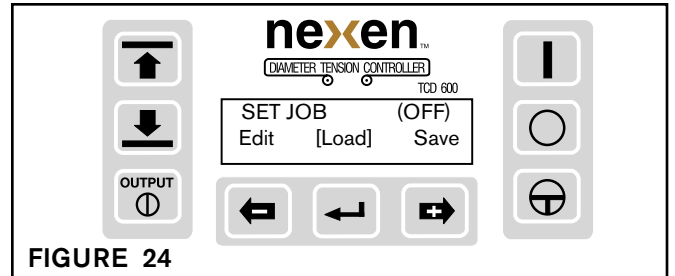

FIGURE 24
- The display returns to Set Job. Press EDIT again to edit JOB 2, and repeat this procedure up to JOB 5 if needed. Or, press Load to recall previously saved job settings to use for a job you want to run now. Press the plus or minus button to select Load, then press Enter (See Figure 24).